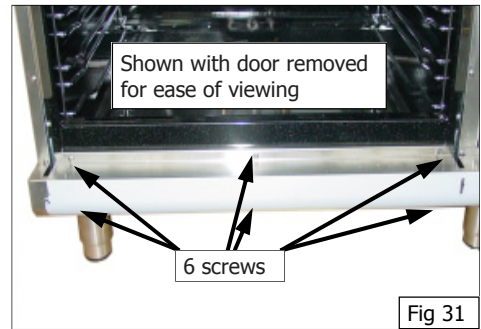

Fig 31
- With the gas supply turned off at the main supply, unscrew and remove the 6 screws securing the lower lintel to the front of the oven. (See Fig 31).